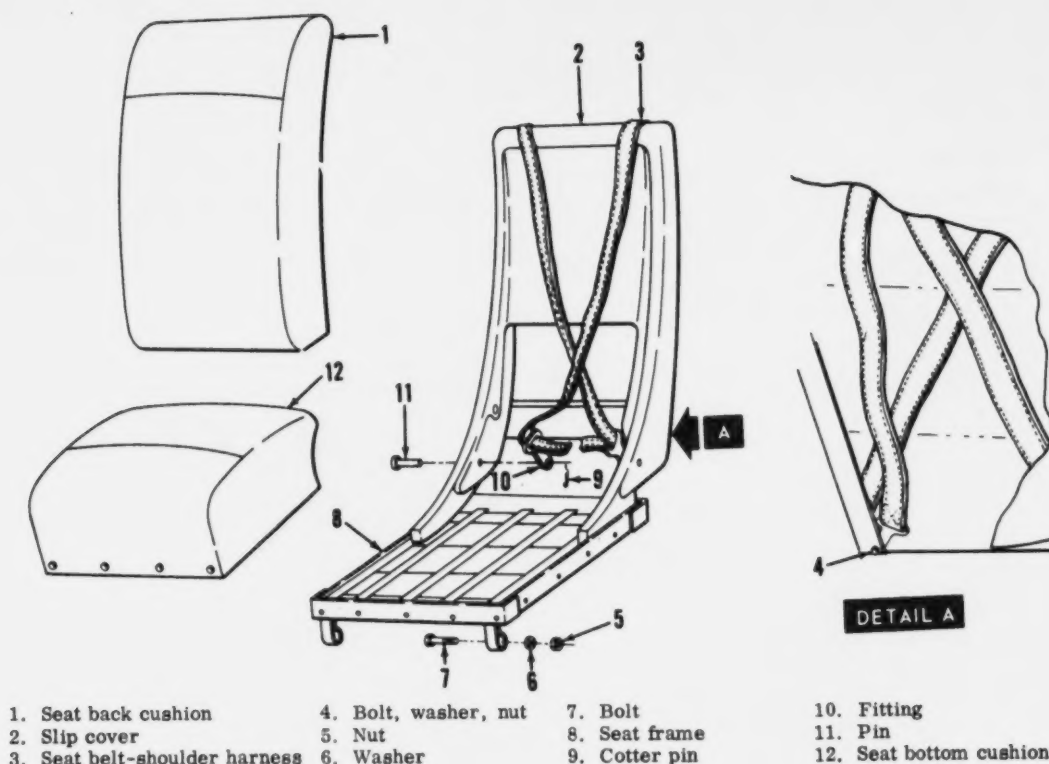

Figure 4-11. Front passenger seat (U-8D and RU-8D)
4-60. FRONT PASSENGER SEAT. The front passenger seat (figure 4-11) pivots forward and to the left on a skewed axis to provide access to the rear passenger seat. A seat locking mechanism incorporated in the seat, actuated by a pin and cable arrangement attached to the cabin compartment door, latches the back of the seat to the main spar. Opening the door withdraws the locking pins so the seat may be tilted forward. A handle on the back of the seat provides an emergency method of releasing the seat locking pins.
a. Removal. (1) Remove seat back and seat bottom cushions (1 and 12, figure 4-11).
c. Inspection. (1) Inspect metal parts of seat for cracks or bends.
(2) Inspect upholstery for fraying, cuts, and condition of stitching and snap fasteners.
d. Installation. (1) Position seat and secure with bolt (7, figure 4-11), washer (6), and nut (5).
(2) Position cushions (1 and 12) and secure snap fasteners.
a. Removal. (Unfasten snap fasteners securing cushions (1 and 12, figure 4-11) to seat frame and remove cushions.
(2) Unfasten snap fasteners securing slip cover (2) and remove slip cover.
d. Installation. (1) Position slip cover (2, figure 4-11) on seat frame and secure snap fasteners.
(2) Position cushions (1 and 12) on seat frame and secure snap fasteners.